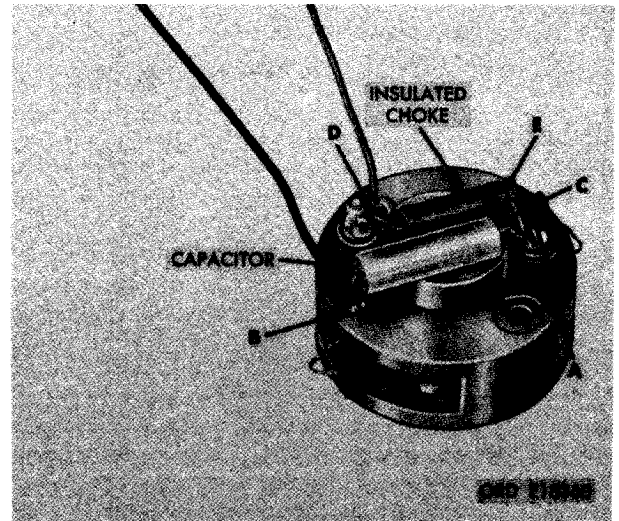

FIGURE 433. REMOVING OR INSTALLING CAPACITOR AND INSULATED CHOKE.
(1) Inspection. Inspect the insulated choke and capacitor (M) for frayed or cracked insulation. Test the insulated choke for continuity using a continuity tester. Remove either if defective.
(2) Removal. Figure 433. (A) Unsolder capacitor and insulated choke leads from terminal. (B) Unsolder remaining capacitor lead and black wire lead from terminal. (C) Remove capacitor and black wire. (D) Unsolder remaining insulated choke lead and red wire lead